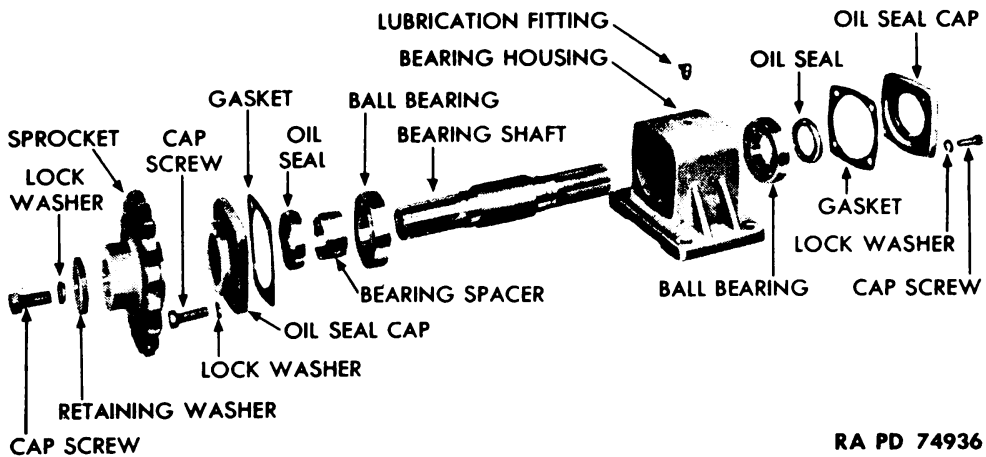

Figure 48 — Double Bearing and Shaft — Disassembled
(1) **REMOVE SPROCKET** (fig. 48). Remove cap screw, lock washer, and retaining washer from end of bearing shaft, and remove sprocket.
(2) **REMOVE SHAFT** (fig. 48). Remove four cap screws and lock washers which hold each of two oil seal caps to bearing housing. Remove the two oil seal caps and gaskets. Press shaft out of the housing, carrying one ball bearing with it and leaving opposite bearing in housing.
(3) **REMOVE BEARING** (fig. 48). Remove bearing spacer from end of shaft, and pull off ball bearing. Drive remaining ball bearing out of housing.
(1) **INSTALL BEARINGS** (fig. 48). Press one ball bearing on bearing shaft, then install shaft and bearing in bearing housing, and press ball bearing into position in housing. Press remaining ball bearing on opposite end of shaft and into bearing housing. Install bearing spacer on shaft, next to ball bearing just installed. Install a new oil seal in each oil seal cap.
(2) **INSTALL END COVERS** (fig. 48). Install new end cover gasket between each cover and bearing housing, and secure each cover to housing with four cap screws and lock washers.
(3) **INSTALL SPROCKET** (fig. 48). Install sprocket on shaft, then install retaining washer, securing it to end of shaft with a cap screw and lock washer.